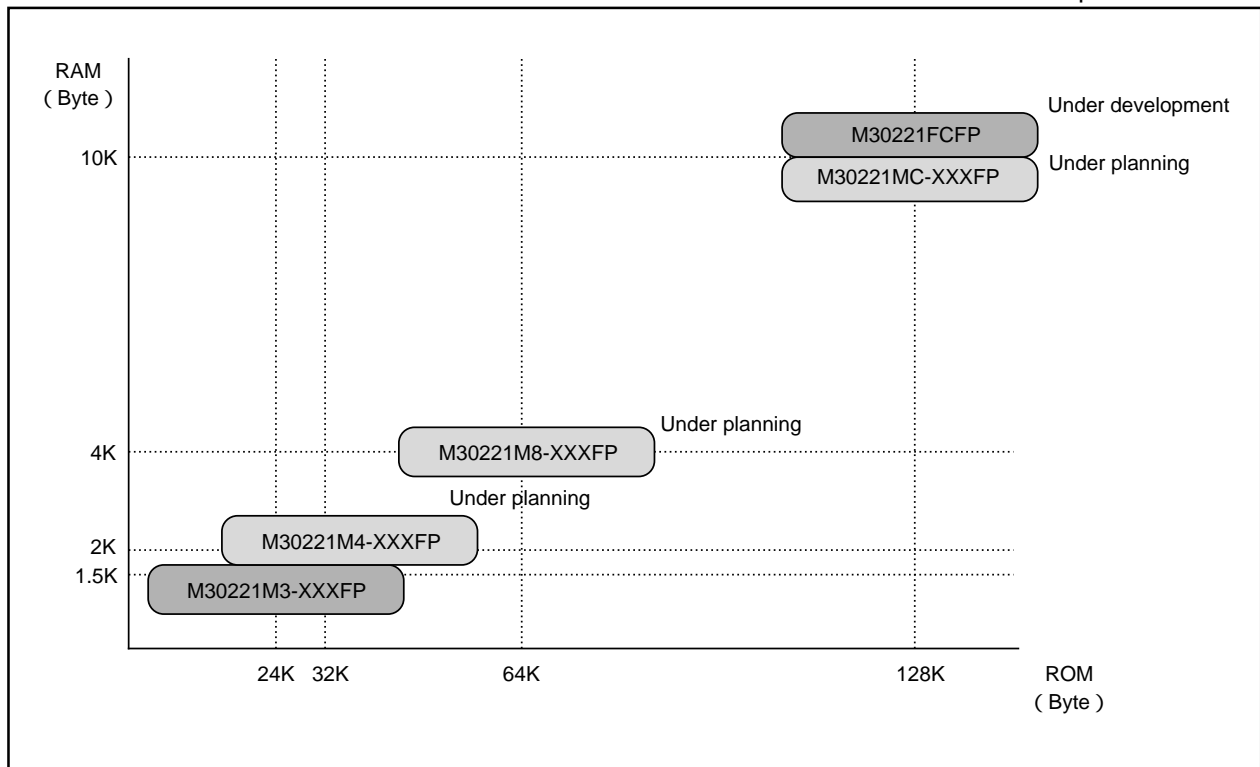
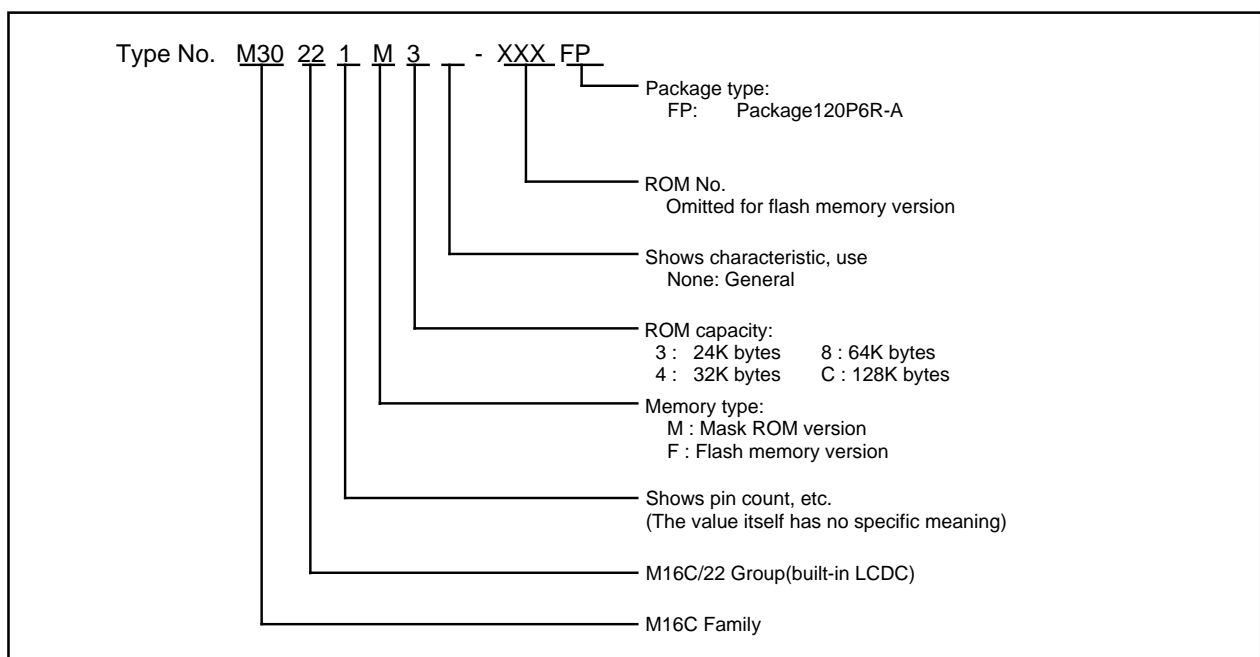

Figure 1.1.3. Memory expansion
Figure 1.1.4. Type No., memory size, and package
- Memory capacity ..... See Figure 1.1.3 Memory Expansion
Figure 1.1.3 shows the memory expansion and figure 1.1.4 shows the Type No., memory size, and package.